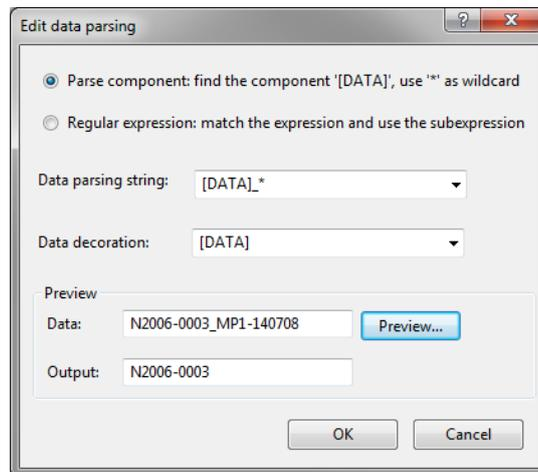

Figure 3: Parsing string.
10. Press the <Preview> button and press <OK> when the parsing is correct (see Figure 3).